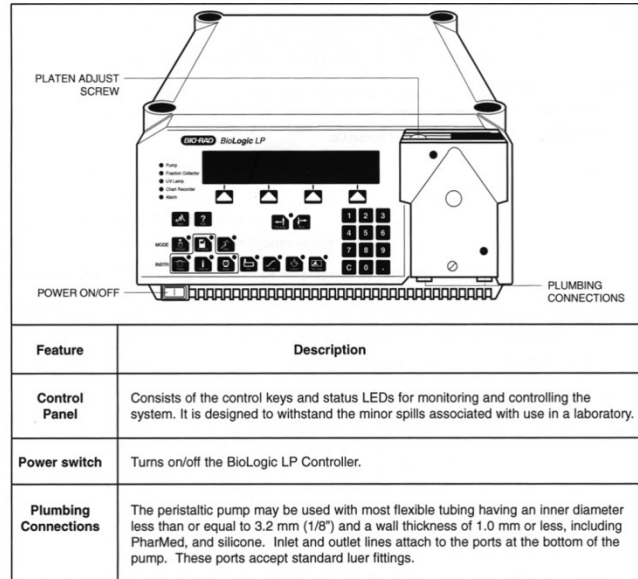

Figure 1: Controller Front Panel
9.1. Figure 1: Controller Front Panel